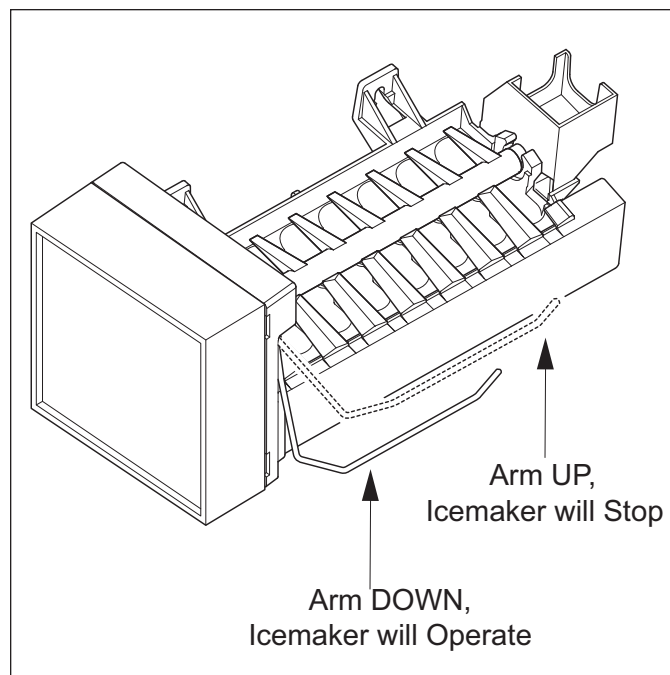

Figure 5-12. Stopping Icemaker
2. Position the ice-level/shut-off arm in the up/OFF position (See Figure 5-12).